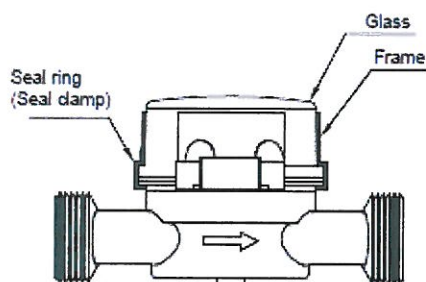

Figure 4
- Seal ring (clamp) locks the glass and frame in to the body. The flow adjustment is protected against external influences. (Figure 4)